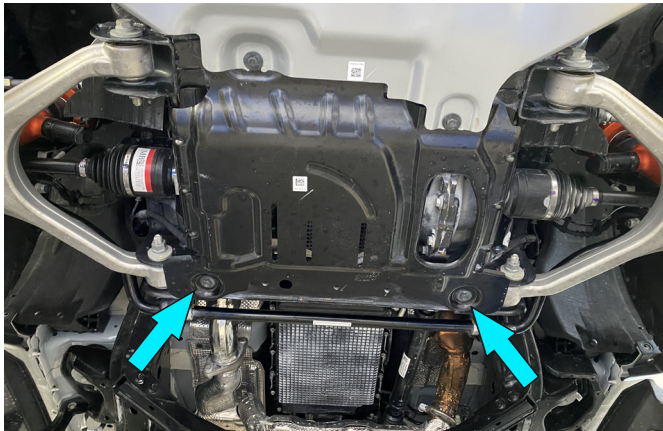

Fig. 1
1. Loosen the rear bolts of engine skid plate or bolts of RIVAL engine skid plate (fig.1).